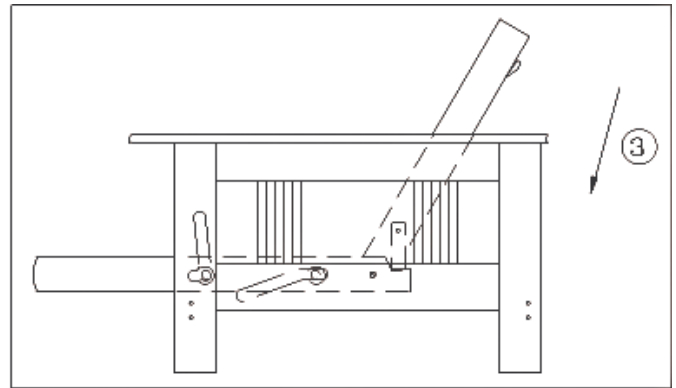

Figure 4
- 3) Push down on front end of seat. This will raise backrest into its sofa position (Figure 4).